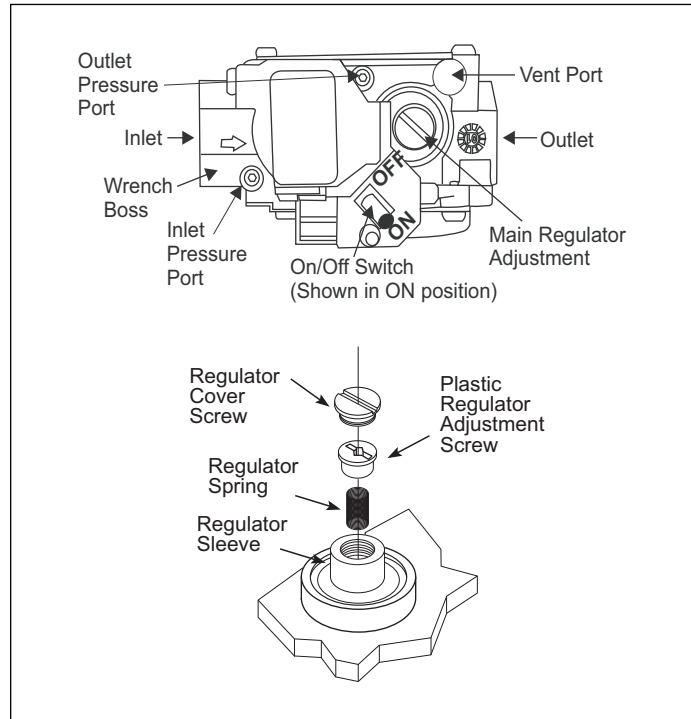

Figure 28 Gas valve and regulator adjustment
This valve is shipped from the factory with the regulator preset to 3.5 in. WC. Consult the appliance rating plate to ensure burner manifold pressure is as specified. If another outlet pressure is required, follow these steps (see Table 13 and Fig. 28).
2. Place thermometers in the return and supply ducts as close to the furnace as possible. Thermometers must not be influenced by radiant heat by being able to "see" the heat exchanger (see Fig. 28).